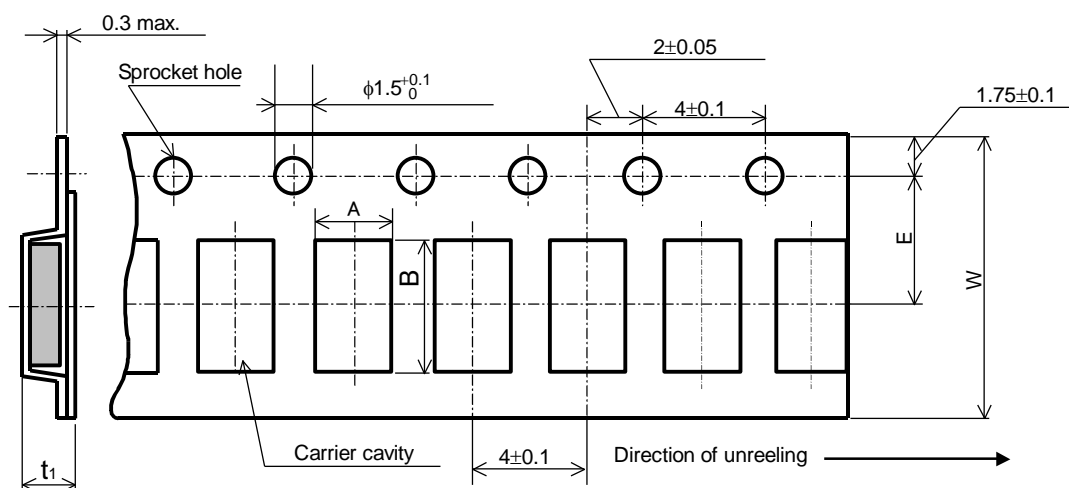
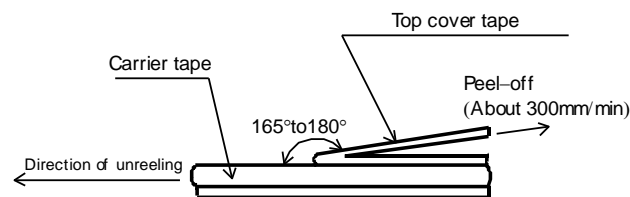

Figure-4
Figure-5
8.2.2 Embossed taping dimensions shall be in accordance with Figure-4 and Table-6.
RPGW16,20,32:Figure-4,RPGW35:Figure-5.